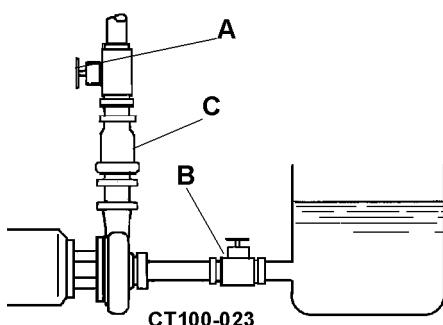

Figure 21 - Pump Below Supply
1. Fill the supply tank with liquid; open the supply line (suction) valve (Figure 21, item B).
2. Vent any air trapped in the supply line or casing by opening the discharge valve (Figure 21, item A).
NOTE: Use a check valve system (Figure 21, item C) to keep the supply line and pump casing flooded with liquid; otherwise the pump must be primed before each operation.